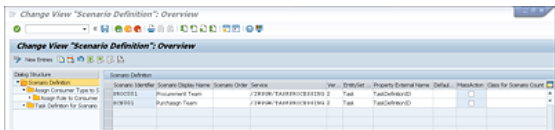

Figure 11.2 Scenario Definition
2. As shown in Figure 11.2, click on the **New Entries** button, and create a new scenario ID using the details mentioned in Table 11.1.